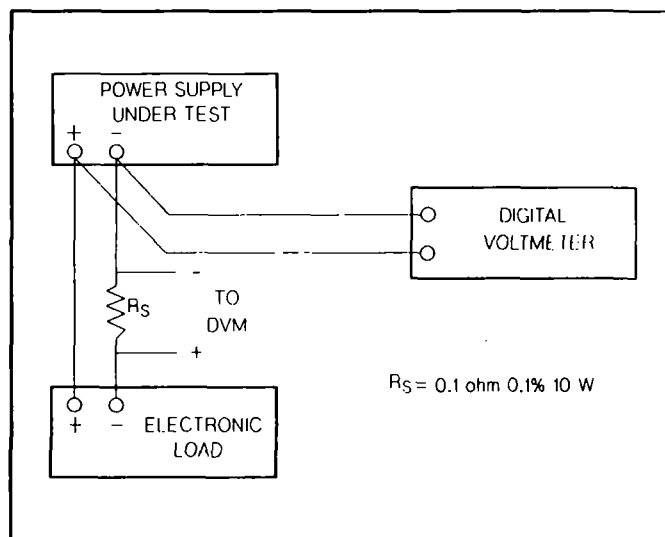

Figure A-2. Basic Test Setup
- Connect the test equipment as shown in Figure A-2. Operate the electronic load in constant current mode and set its current to the full rated value of the power supply (E3610A: 3.0 A, E3611A: 1.5 A, E3612A: 0.5 A).
- Connect the test equipment as shown in Figure A-2. Operate the electronic load in constant current mode and set its
- a. Connect the test equipment as shown in Figure A-2, but replace the DVM with the oscilloscope. Operate the electronic load in constant current mode.
- Connect the DVM across R_s in Figure A-2. Operate the electronic load in constant voltage mode and set its voltage to the full rated value of power supply.